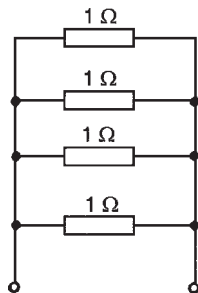

Figure 7.16
- (a) **All four in parallel** (see Fig. 7.16), since